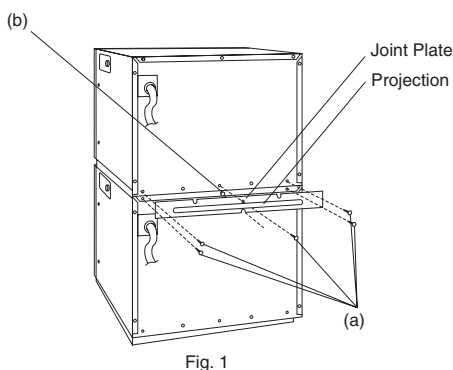

Fig. 1
1. Stack the units and remove five screws (a) as shown in Fig.1.